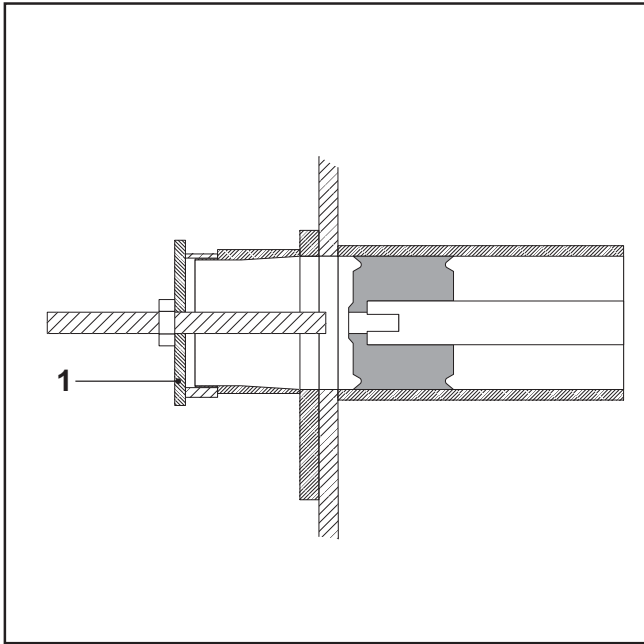

FIG.43
- Mount the flange for removing the piston (FIG.43-REF. 1).